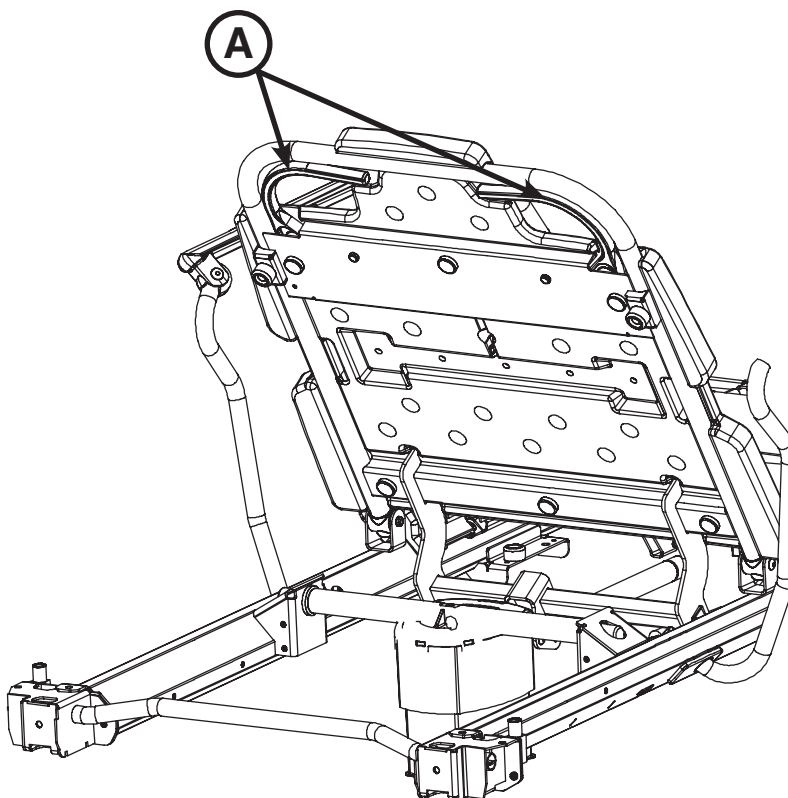

Figure 11: Pneumatic Fowler
To raise the fowler, squeeze either or both of the yellow fowler handles (A) for pneumatic assist until the fowler has reached the desired angle (between 0 and 90 degrees) as shown in Figure 11.
To lower the fowler, squeeze either or both of the yellow fowler handles (A) and push down until the fowler has reached the desired angle (between 90 and 0 degrees) as shown in Figure 11.